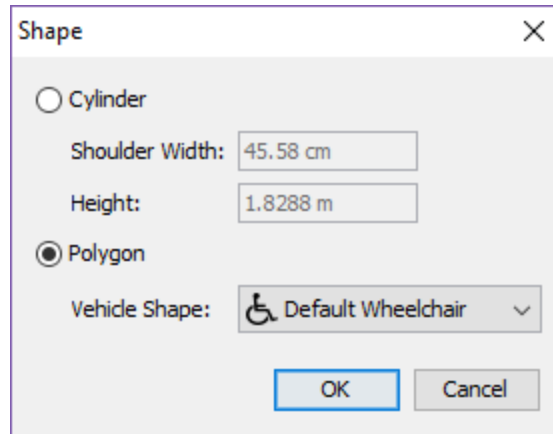

Figure 137. The Shape Dialog where a user may select a vehicle shape for a client
- Choose a **Vehicle Shape** for the client (see Section 5.1.10 and Figure 137) by editing the **Shape** parameter on the occupant properties panel. *All clients must have a vehicle shape* (see Section 5.2). Either choose a default shape or define a custom shape with user-defined positions for assistants.